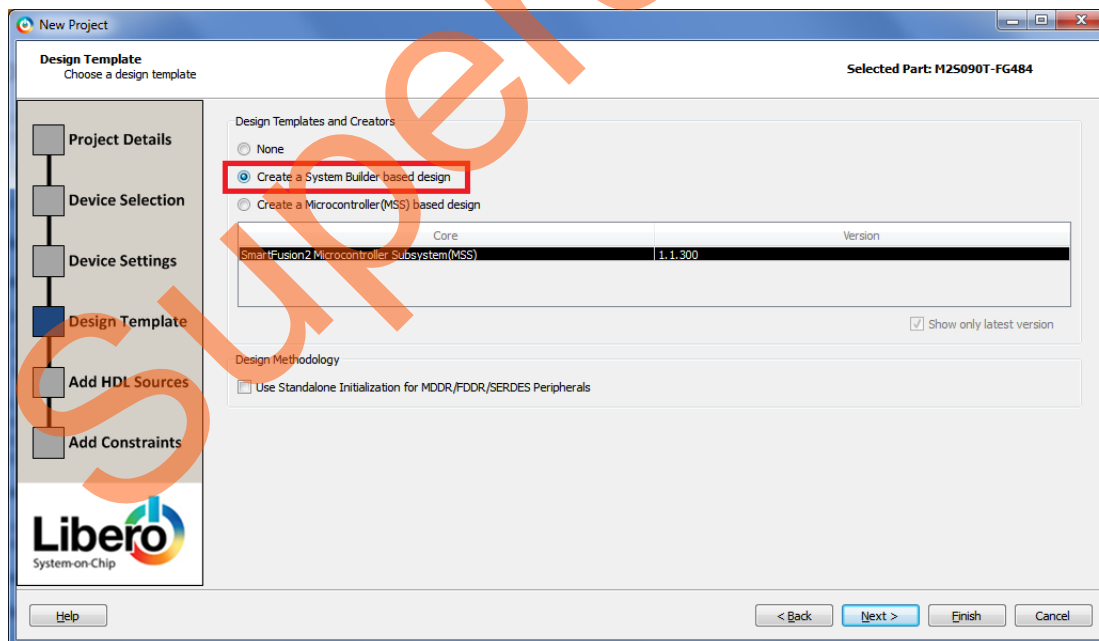

Figure 5 • New Project - Design Template
7. Select **Create a System Builder based design** under **Design Templates and Creators** as shown in Figure 5.